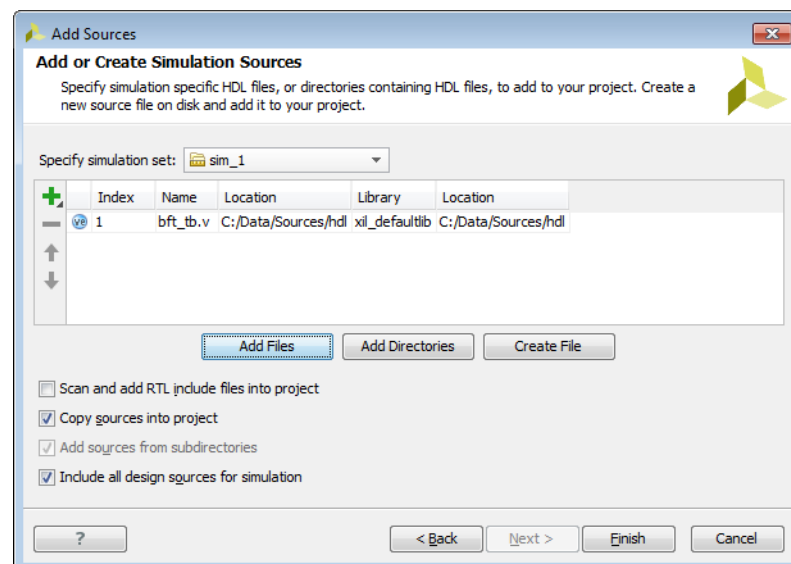

Figure 3-24: Add Sources Wizard—Add or Create Simulation Sources Page
- In the Add or Create Simulation Sources dialog box (Figure 3-24), set the following options, and click **Finish**.